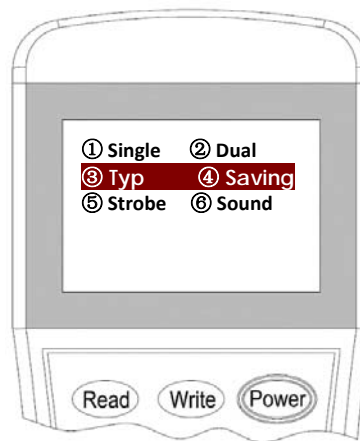

Figure 11
3. Input the **"3"** for **Typical** mode or **"4"** for **Saving** mode then press **"Write"** to change the setting into the desire mode (Figure 11).